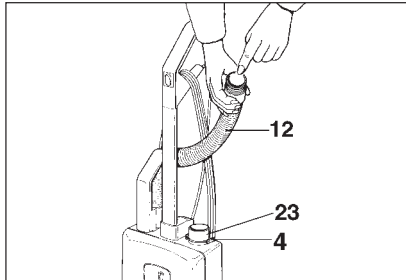

Figure 13
### Clogs in the Attachment Hose - Figure 13
Remove attachment hose (12) from vacuum cleaner (see figure 13) and remove front cover (7). Clean out connecting tube (23) and/or entrance to bag (28).